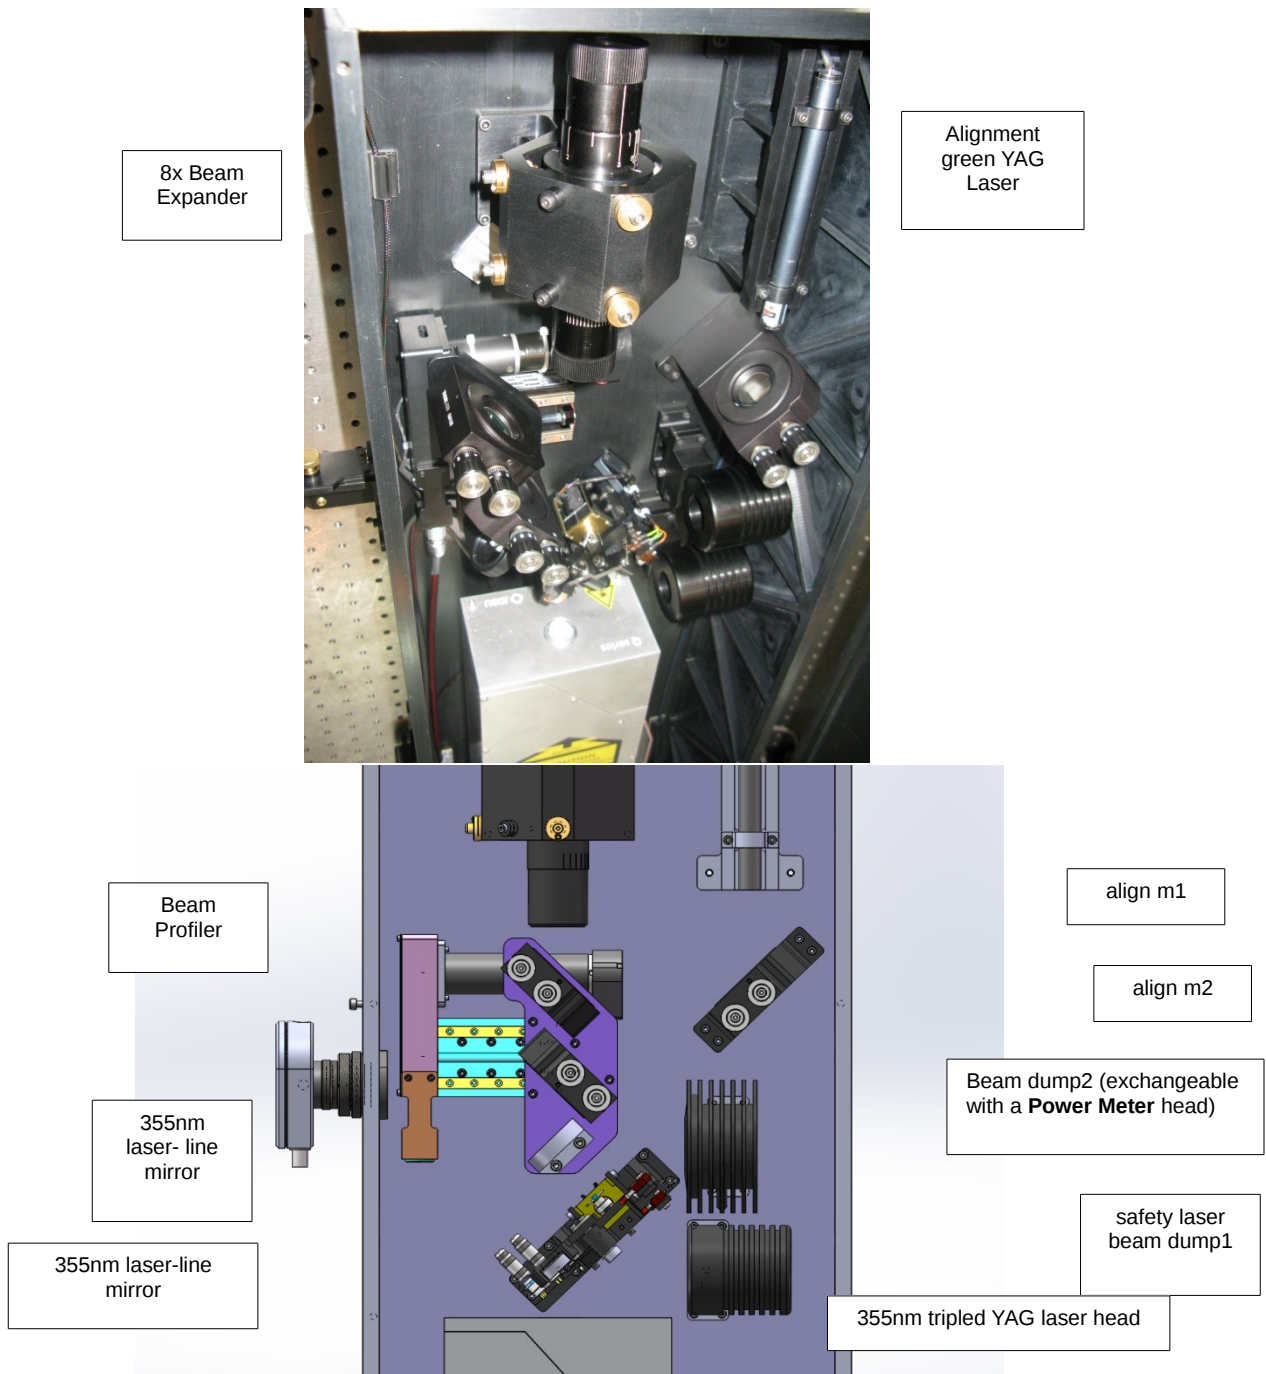

Figure 2.4. As built components of the LGS Laser-box.
-Install Beam profiler (Beamage-CCD23, Gentec EO) in beam-profiler port on laser-box, Fig.2.4. (see also SAM-AD-02-2310, page6).